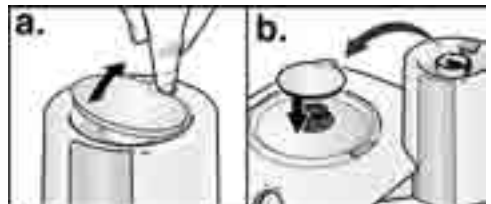

Figure 12
3. If you have not already done so, move the motor drive cover to the high-torque drive, see figure 12.